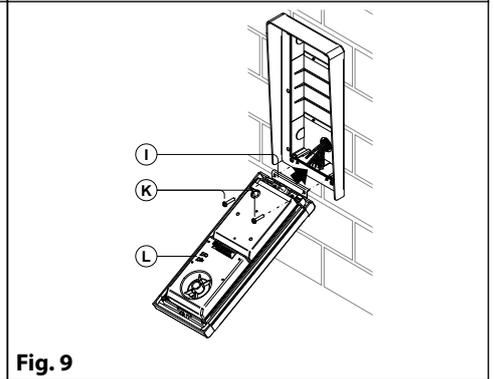

Fig. 9
9. Insert the hinge **I (Fig. 9)** and fix it with the two screws **K (Fig. 9)** provided;
10. Make all connections following accurately the wiring diagram provided. Check the installation and if necessary adjust speech levels using volume controls **L (Fig. 9)**;